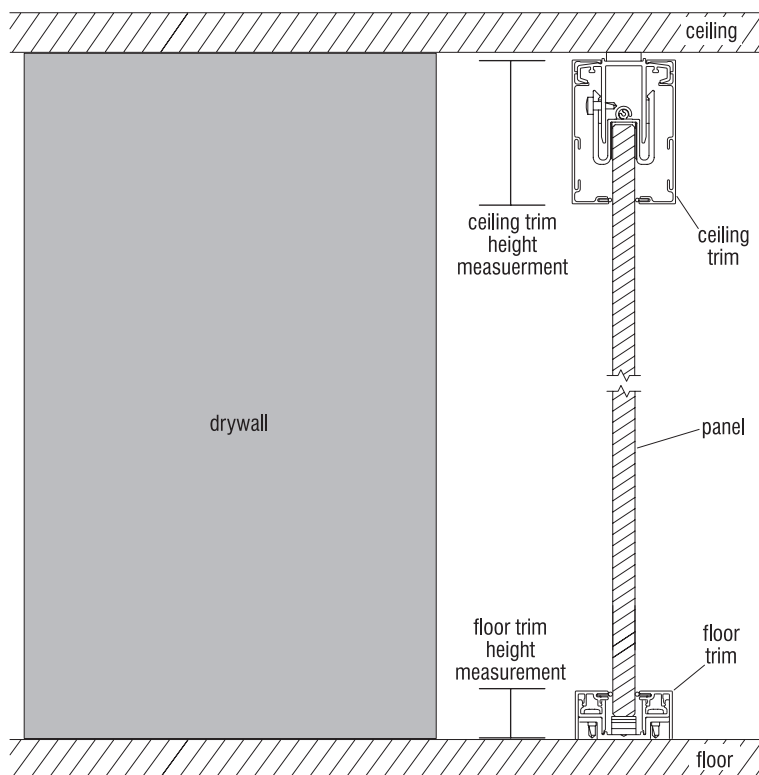

Figure 3
5. Measure from the floor to top of the base trim and record the measurement (Figure 3).
6. Measure from the ceiling to bottom of ceiling trim and record the measurement (Figure 3).